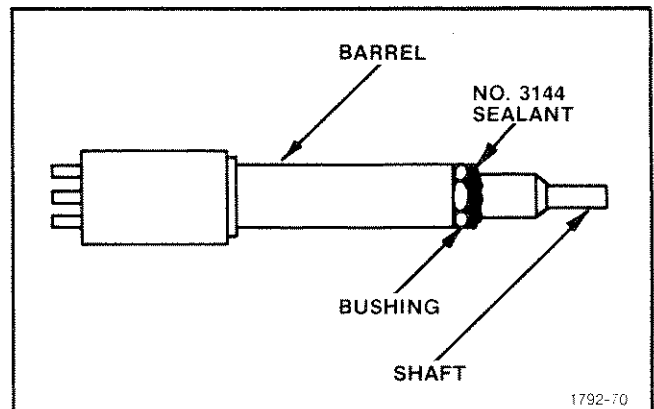

Fig. 5-17. Application of sealant to FOCUS and INTENSITY controls.
**17. Install the FOCUS and INTENSITY controls (see Fig. 5-17)**